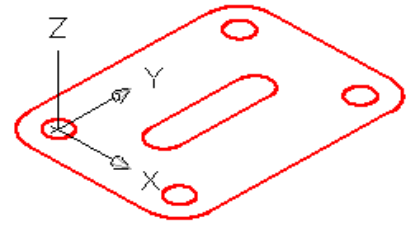

Figure Step 6
Step 6 Set the UCS to Top and locate it on top of the model as shown in Figure Step 6.